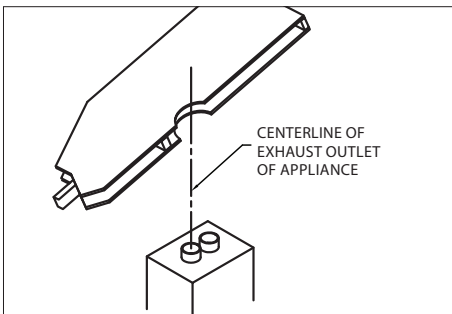

Figure 25
1. Locate the penetration in the roof (Fig.25). Measure the intended path of the installation and make sure you have all the necessary components to complete the install.